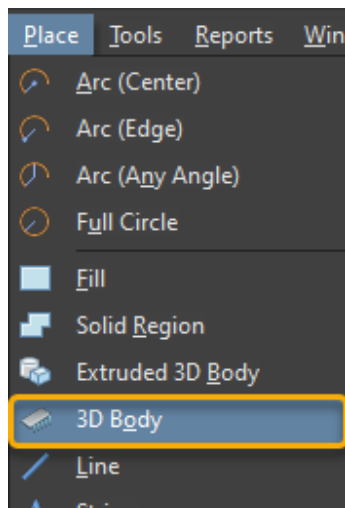

Figure 33. Place 3D Body Command
48. Go to **Place » 3D Body (P, O)** from the menu as shown in Figure 33.